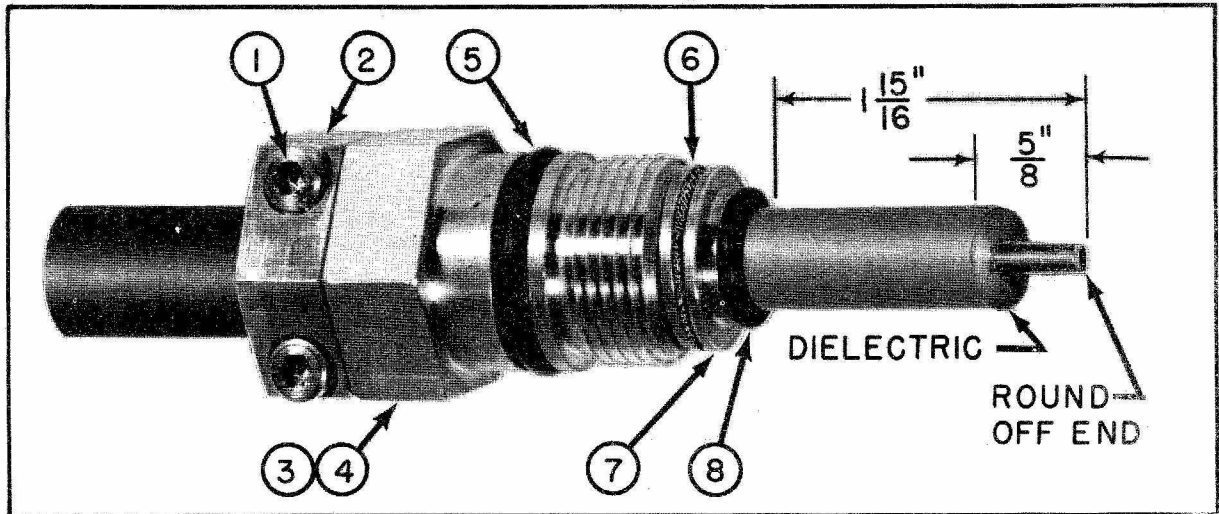

Figure 5-12d. Dielectric Removed from Center Conductor
Step 2. - Measure 0.66525 inch from the end of the dielectric and cut it off square to expose the center conductor. Avoid cutting, nicking or otherwise damaging the center conductor. Round off the end of the center conductor with a fine file. Remove all filings that may be on the center conductor or dielectric (see figure 5-12d).